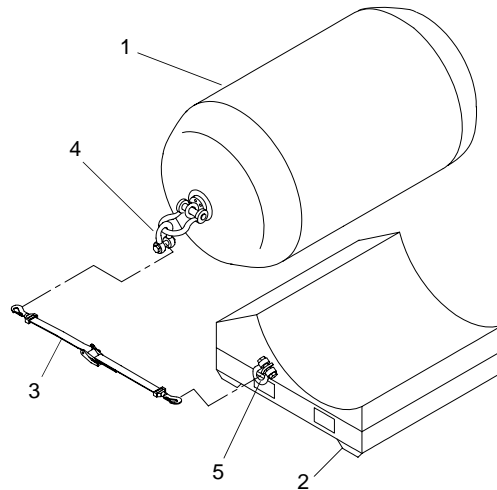

Figure 8. 5 ft by 10 ft Fender and Pallet
10. Using crane, slings and shackles place 5 ft by 10 ft fender (figure 8, item 1) in pallet (figure 8, item 2).
11. Attach tie down straps (figure 8, item 3) to the fender shackles (figure 8, item 4) and pallet shackles (figure 8, item 5). Tighten straps (figure 8, item 3).